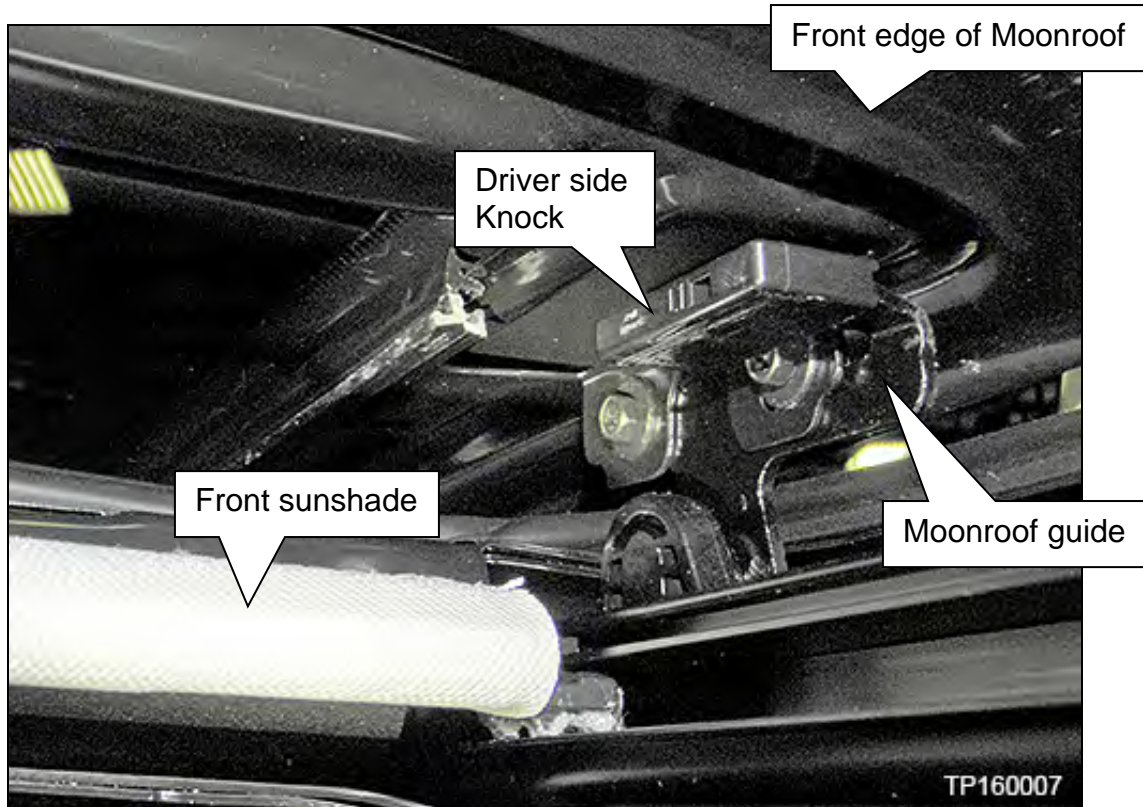

Figure 6
5. Confirm that both left and right knocks are present and correctly seated (Figure 6).